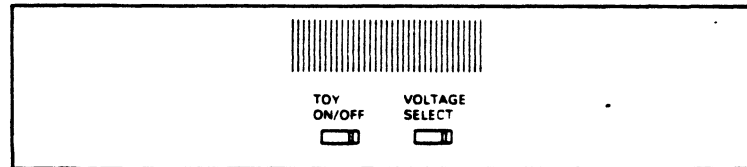

FIGURE 2-26 BBU FRONT PANEL
3. Set the front panel TOY (Time of Year) switch to OFF. See Figure 2-26.